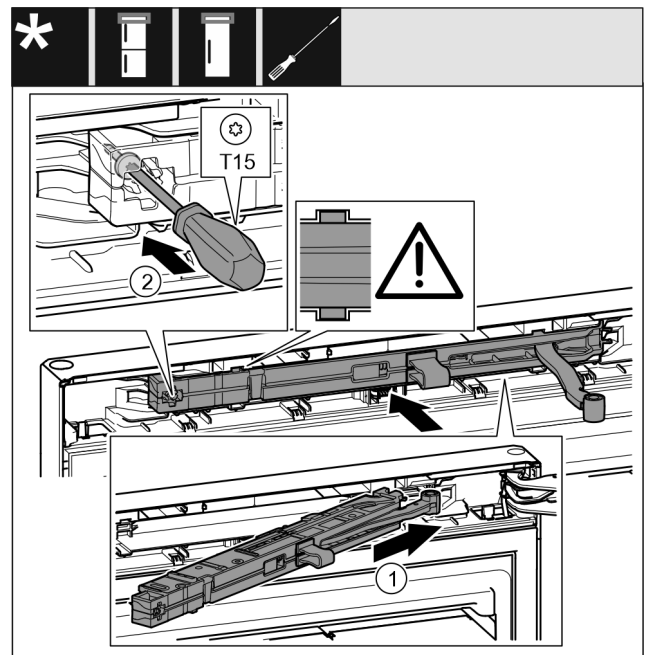

Fig. 24
- ▶ Slide the soft stop mechanism on the bearing bracket side at an angle into the recess as far as it will go. Fig. 24 (1)
- ▶ Tighten the screw using a T15 screwdriver. Fig. 24 (2)